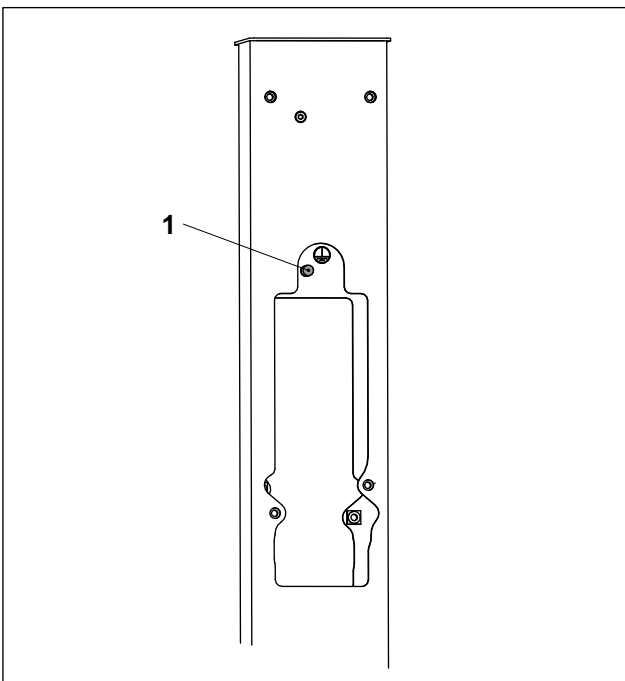

Fig. 4 Protective equipotential bonding connection
3. Connect the protective ground conductor to the grounding pin (Fig. 4/1) (equipotential bonding line) of the column. Sequence: contact disk, washer, cable lug/cable, washer, spring ring, nut. Tightening torque 12 Nm.